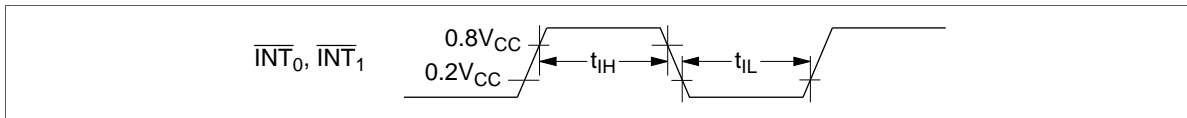

Figure 44 Interrupt Timing
4. See figure 44. The unit t_{cyc} is applied when the MCU is in standby mode or active mode.
6. See figure 44. The unit t_{subcyc} is applied when the MCU is in watch mode or subactive mode. t_{subcyc} = 244.14 μs (when a 32.768-kHz crystal oscillator is used)